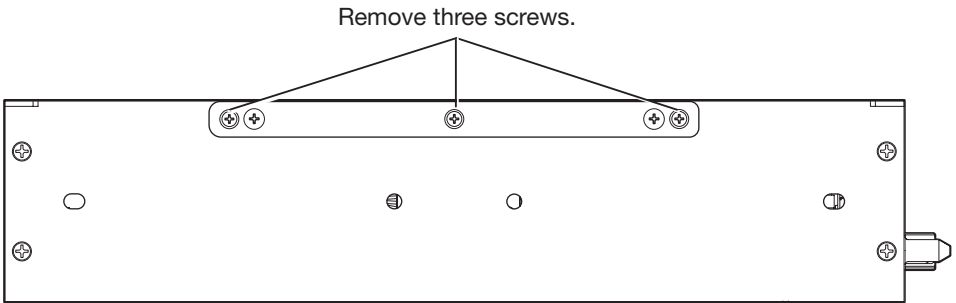

Figure 6. Removing the Metal Strip from the Failed Redundant Power Supply Back Panel
- 3. Remove the metal strip from the back of the failed redundant power supply by unfastening the three flat-headed screws (see figure 6). (Retain the back plate and screws to reattach the strip in step 6).